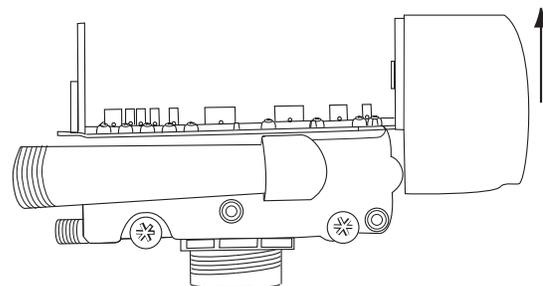

Figure 15
7. Lift the control off the valves, Figure 15. To replace the control, reverse the above procedure. Note that the camshaft needs to be positioned correctly before it can be inserted into the back of the control. There is a locating rib on the camshaft. Position the rib on the top of the shaft and slide the camshaft into the control. Push up on the end of the camshaft, furthest from the timer, snapping it into place.